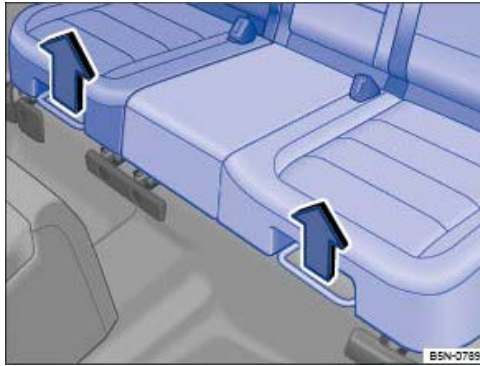

Fig. 94 Adjusting the rear bench seat.
- Pull up the right-hand or left-hand lever in the direction of the arrow → Fig. 94 and move the corresponding element of the rear bench seat either forwards or backwards.